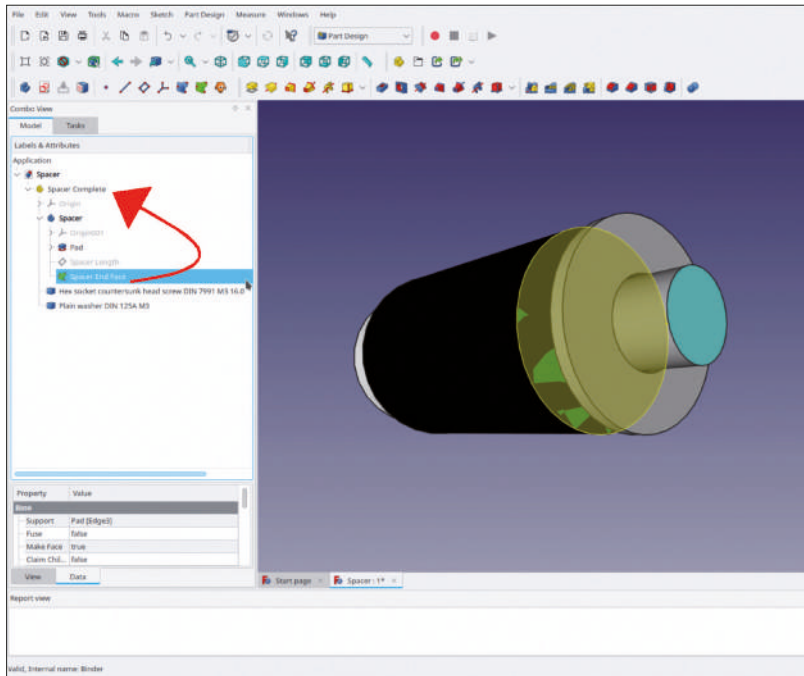

Figure 4-23
17. In order to allow other body objects in 'Spacer Complete' to refer to the new SubShapeBinder, drag and drop it into the Std-Part-Container 'Spacer Complete'. It is then listed at the same hierarchical level as the washer and screw (Figure 4-23).